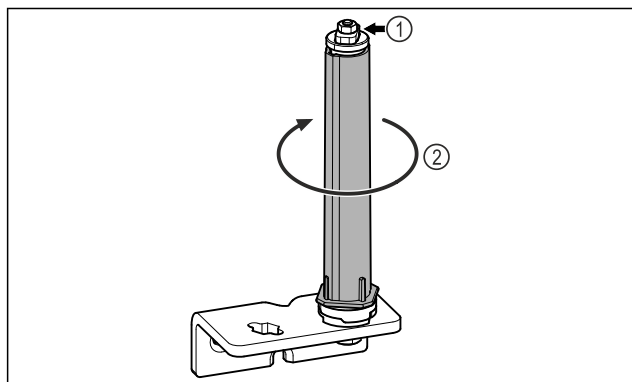

Fig. 28
- ▶ Do not disassemble the door locking system Fig. 28 (1).
- ▶ Turn the locking system Fig. 28 (2) until it clicks.